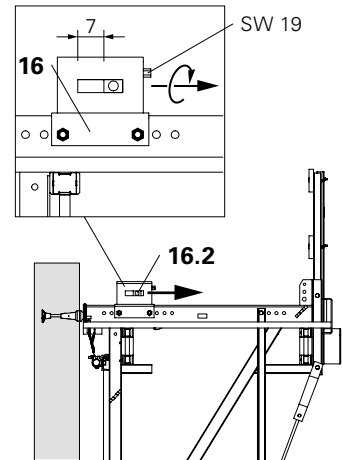
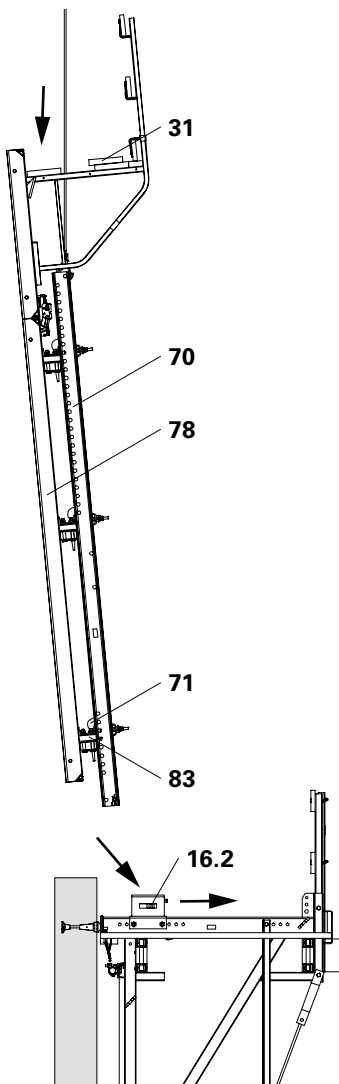

Fig. B2.28a
Fig. B2.28b
1. Completely move back the sliding block (16.2) of the Adjusting Unit CB (16), SW 19. (Fig. B2.28a)
2. Open concreting platform decking (31) above the Strongback. Secure loose decking components.
3. Attach formwork (78) together with concreting platform to the Strongback CB (70), and position on the platform. (Fig. B2.28b)